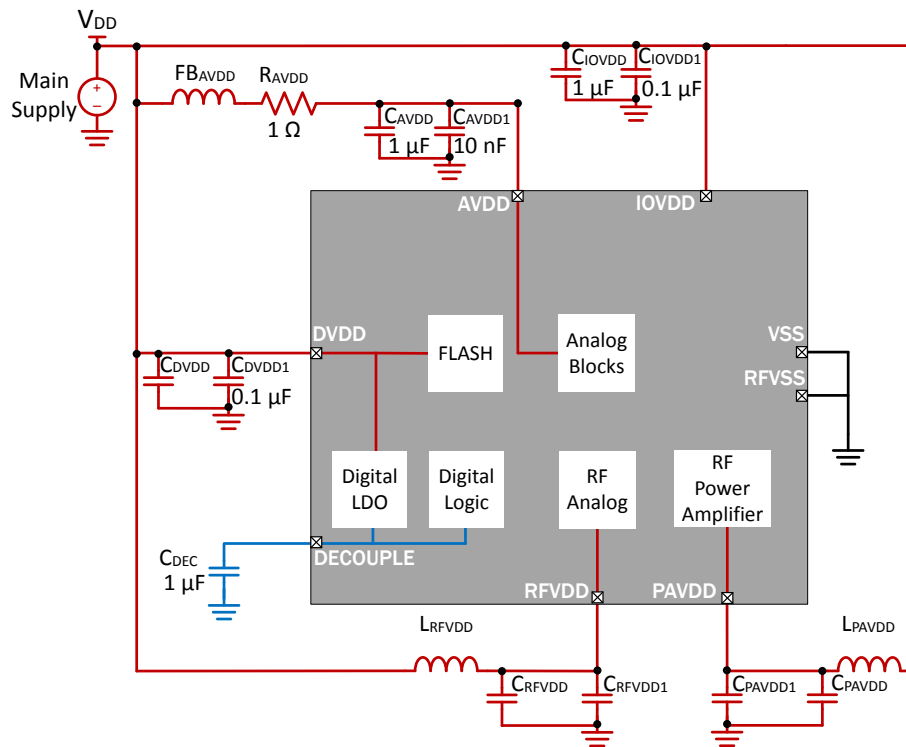

Figure 3.2. EFM32 and EFR32 Wireless Gecko Series 2 Improved AVDD Filtering Example
- Updated Figure 3.1 EFM32 and EFR32 Wireless Gecko Series 2 Standard Decoupling Example on page 11 and Figure 3.2 EFM32 and EFR32 Wireless Gecko Series 2 Improved AVDD Filtering Example on page 13 recommended CAVDD value to 1.0 μ F.